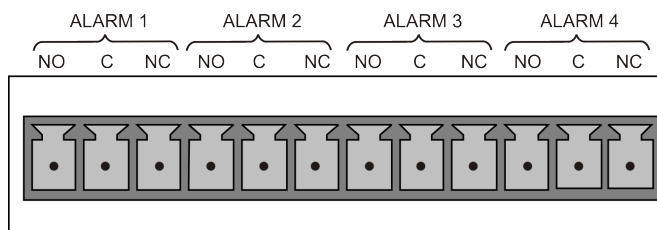

Figure 2-8. Concentration Alarm Relay
The concentration alarm option provides four (4) “dry contact” relays on the rear panel (Figure 2-8) , each with 3 pins: Common (C), Normally Open (NO), and Normally Closed (NC). The Relays can be mapped to reflect various internal instrument conditions and states. ConFigure these outputs through the Setup>Digital Outputs menu (Section 2.5.7) under MB Relay [1 thru 4].